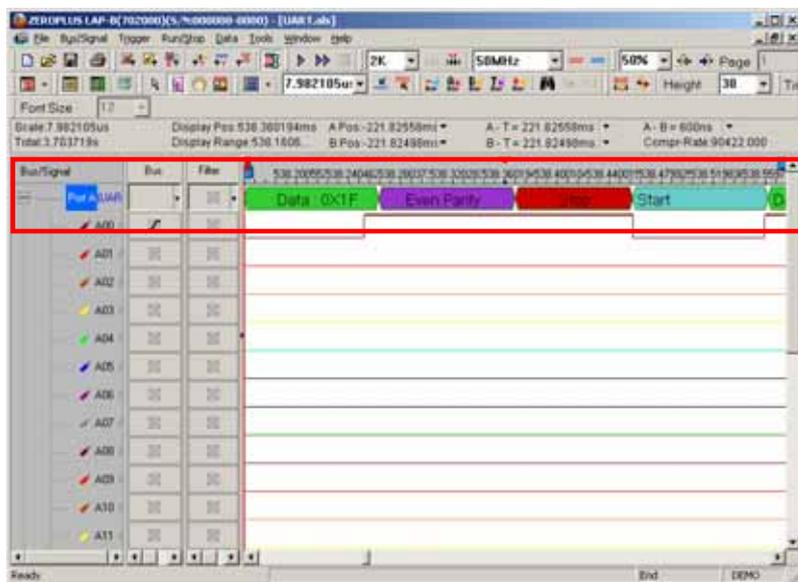

Fig 4-78-Waveform Analysis
**Step 6.** Click **Run** to acquire the UART signal from the tested UART circuit. Refer to Fig 4-78.